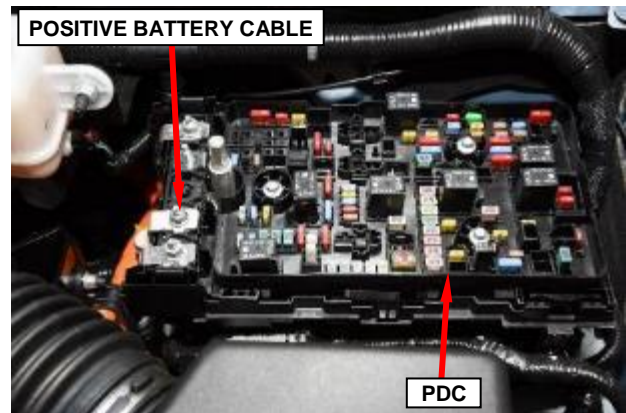

Figure 6 – Positive Battery Cable
13. Remove the nut securing the positive battery cable, then disconnect the positive battery cable from the 12-volt PDC (Figure 6).